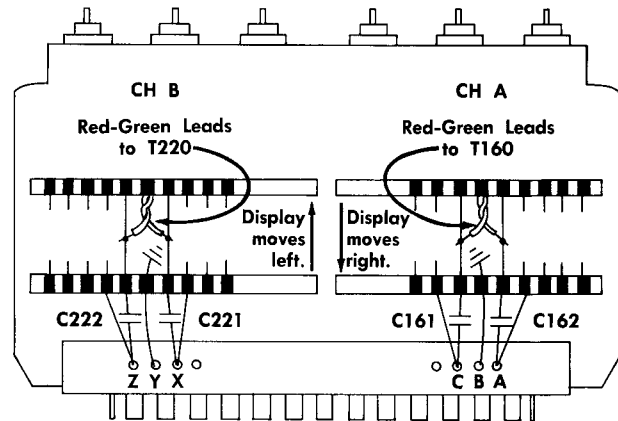

Fig. 5-7. Gate Generator parts location for adjusting co-channel time coincidence.
- e. Fig. 5-7 shows the location of an adjustable time system on the Gate Generator subchassis. For example, if Channel A display should need to be moved to the right 30 psec, move the red and green leads to T160 exactly one centimeter closer to the 22-pin connector. Use a small soldering iron and move both leads equally so they are parallel when moved. A total range of about 100 psec adjustment is available by moving the red and green leads of both channels in opposite directions.